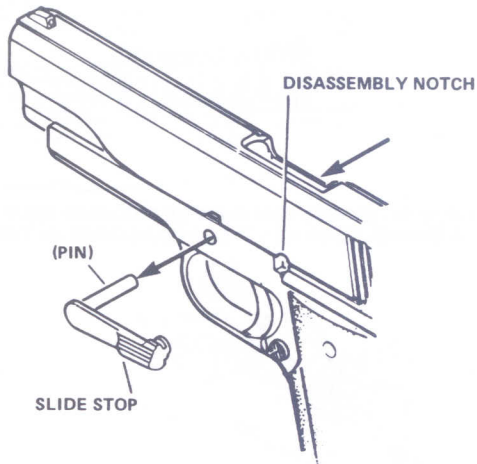

FIGURE 9—REMOVING SLIDE STOP
5. **(A, B & C)** Pull slide to rear until lug on slide stop is opposite disassembly notch (See Figure 9) and push rounded end of pin of slide stop (on right of receiver) inward and through receiver to disengage slide stop from slide.
(See Figure 9).